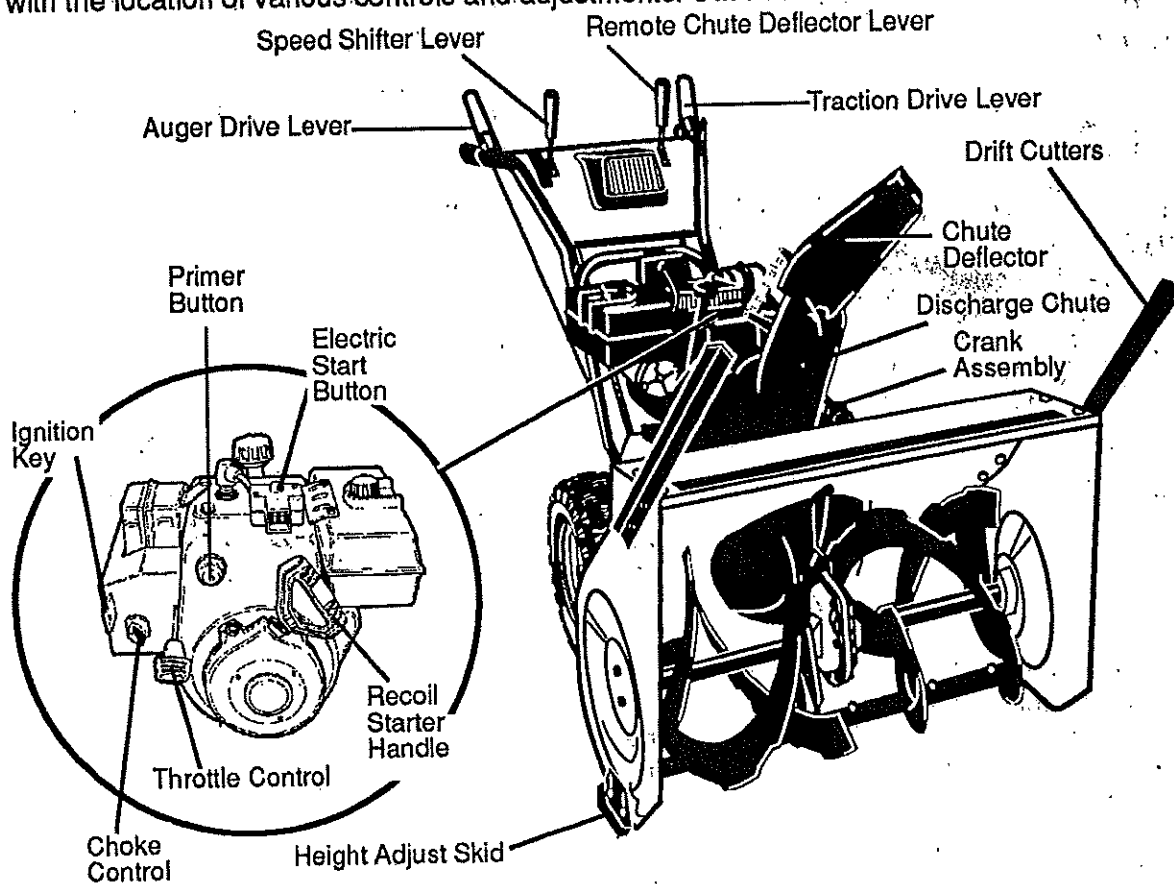

FIG. 1-OP
- To stop the engine, push the throttle control lever to off and pull out the ignition key (See FIG. 1-OP).